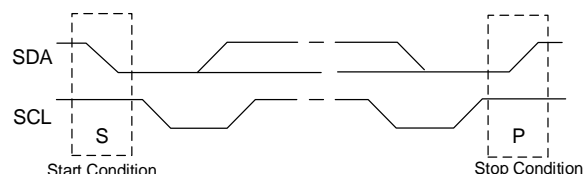

Figure 12: Start and Stop Conditions
The start and stop conditions are signaled by the master device, and signify the beginning and the end of the I²C transfer. The start (S) condition is defined as the SDA signal transitioning from high to low while the SCL is high. The stop (P) condition is defined as the SDA signal transitioning from low to high while the SCL is high (see Figure 12).